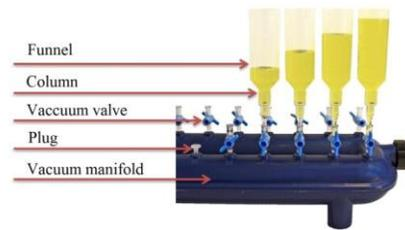

Figure 2. Assembling of Anti-EPO columns and funnels on vacuum manifold.
2. Place the Anti-EPO column/funnel assembly on a vacuum manifold with standardized Luer female taper connection as illustrated in Fig.2. Close all unused slots.